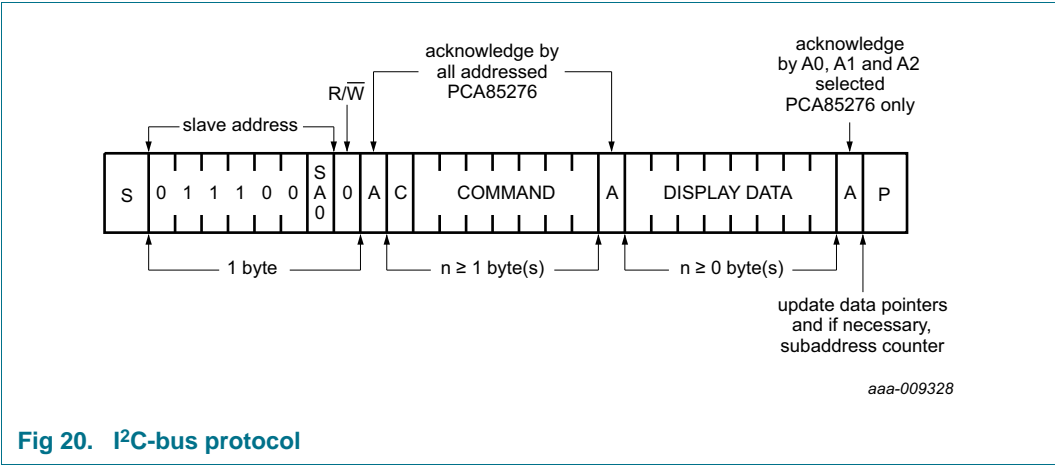

Fig 20. I²C-bus protocol
The I²C-bus protocol is shown in Figure 20. The sequence is initiated with a START condition (S) from the I²C-bus master which is followed by one of the two possible PCA85276 slave addresses available. All PCA85276 whose SA0 inputs correspond to bit 0 of the slave address respond by asserting an acknowledge in parallel. This I²C-bus transfer is ignored by all PCA85276 whose SA0 inputs are set to the alternative level.